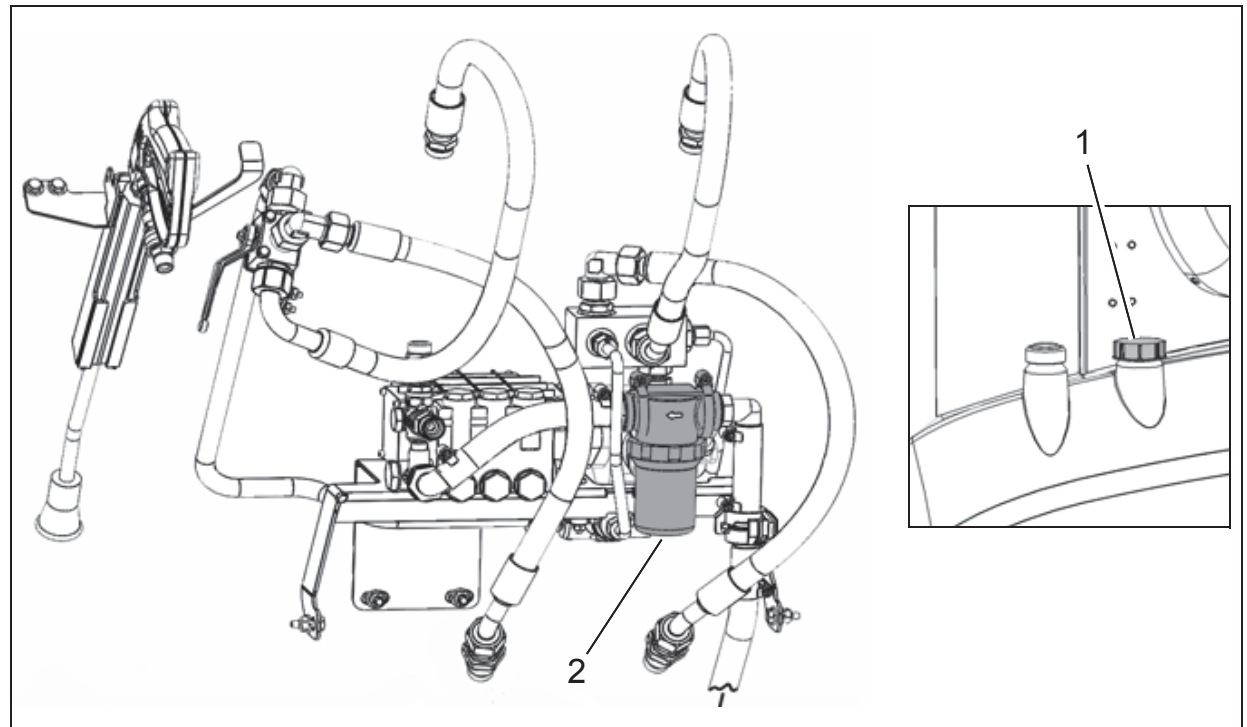

Fig.7
1. Fill the fresh water tank (Fig. 7/1).
2. Check and if necessary clean the water filter (Fig. 7/2) of the high-pressure cleaner.